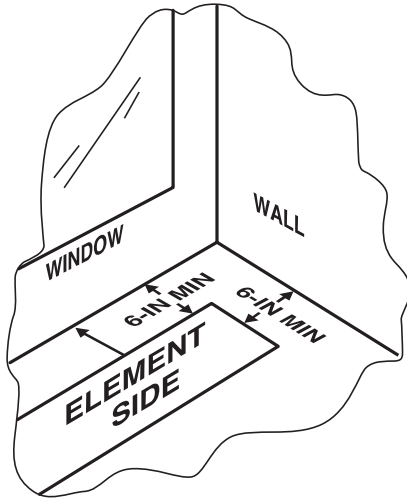

Figure 9: Installation Location
2. All sides of the heater must have 6" of clearance to wall, minimum. Note: element side of heater is intended to be closest to the window. See figure 9.
- All sides of the heater must have 6" of clearance to wall, minimum. **Note:** element side of heater is intended to be closest to the window. See figure 9.
2. All sides of the heater must have 6" of clearance to wall, minimum. **Note:** element side of heater is intended to be closest to the window. See figure 9.
- All sides of the heater must have 6" of clearance to wall, minimum. Note: element side of heater is intended to be closest to the window. See figure 9.